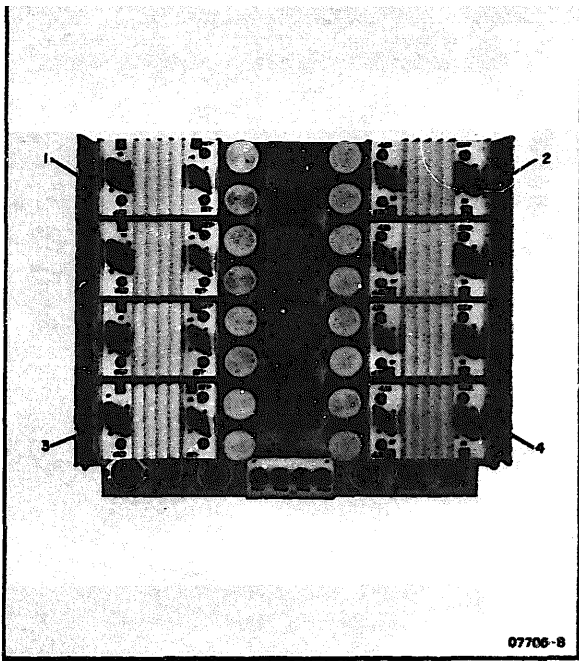

Figure 2-2. Shipping Retainer Locations, Rear
2-19. SYSTEM WITH CABINET. The Recorder is firmly held in the cabinet with shipping screws. These and other retainers must be released before use. Prepare the Recorder for operation using the following procedures, referring to Figures 2-2, 2-3 and 2-4 for location of the shipping retainers:
a. Open cabinet rear access door, locate and remove four shipping screws which hold Recorder to cabinet shipping brackets (Figure 2-2, 1, 2, 3, 4).
d. Open viewing window and remove tape which holds stylus guard retainer down on platen table (Figure 2-2, 8). Leave window open.
e. Pull out on stylus lifting lever (left side of platen table, center), hold platen table with one hand, lift up and out on table locking table. Take out spool of Permapaper and look in through paper compartment to identify two chrome plug buttons (Figure 2-2, 9). Pry out right-hand button to release motor chain, and interchange with left-hand button. Replace Permapaper or install new roll (see paper loading instructions Figure 3-4).
- d. Remove gummed paper protective covering from viewing window and close window (Figure 2-2, 10).